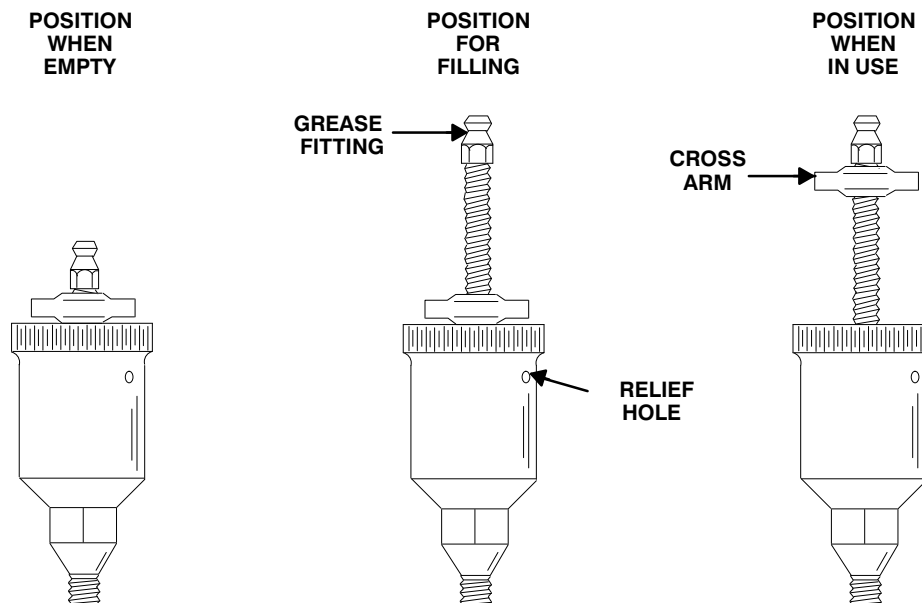

Figure 7. Automatic Lubricating Grease Cup
### (Figure 7)
Fill the grease cup (27) through the grease fitting with No. 2 lithium base grease until grease escapes from the relief hole. Turn the grease cup arm counterclockwise until it is at the top of the stem; this will release the spring to apply grease to the seal (see Figure 7).